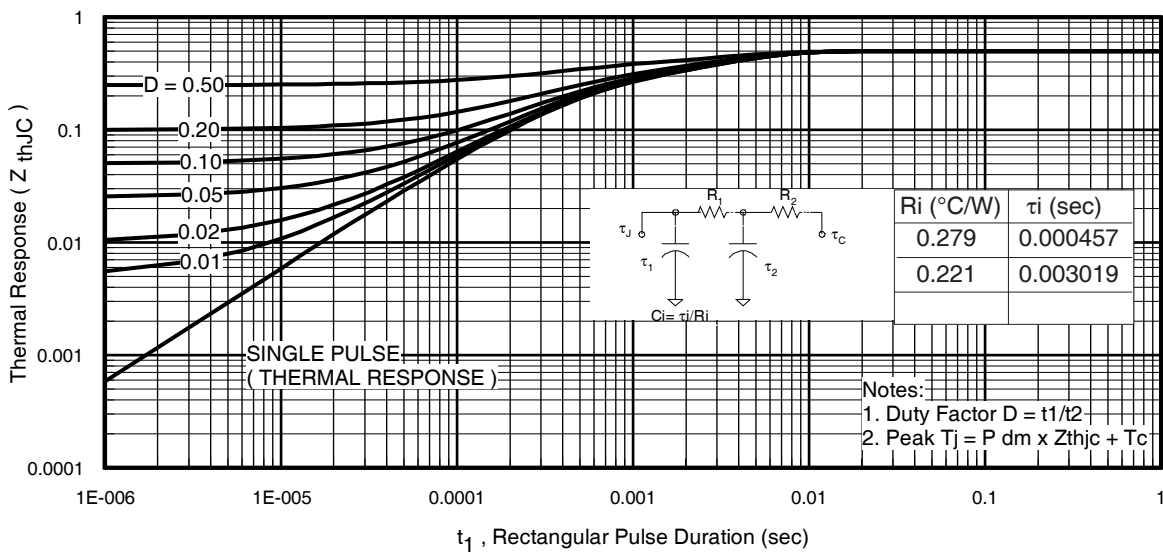
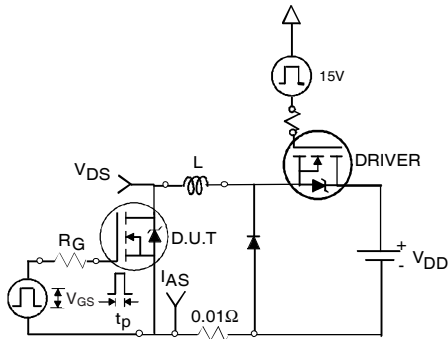

Fig 11. Maximum Effective Transient Thermal Impedance, Junction-to-Case
Fig 12a. Unclamped Inductive Test Circuit
- ① Repetitive rating; pulse width limited by max. junction temperature. (See fig. 11).
- ② Limited by T_{Jmax} , starting $T_J = 25^\circ\text{C}, L=0.095\text{mH}, R_G = 25\Omega, I_{AS} = 75A, V_{GS} = 10V$. Part not recommended for use above this value.
- ③ $I_{SD} \leq 75A, di/dt \leq 340A/\mu s, V_{DD} \leq V_{(BR)DSS}, T_J \leq 175^\circ\text{C}$.
- ④ Pulse width $\leq 1.0\text{ms}$; duty cycle $\leq 2\%$.
- ⑤ $C_{oss\ eff.}$ is a fixed capacitance that gives the same charging time as C_{oss} while V_{DS} is rising from 0 to 80% V_{DSS} .
- ⑥ Limited by T_{Jmax} , see Fig.12a, 12b, 15, 16 for typical repetitive avalanche performance.
- ⑦ This value determined from sample failure population. 100% tested to this value in production.
- ⑧ This is applied to D²Pak, when mounted on 1" square PCB (FR-4 or G-10 Material). For recommended footprint and soldering techniques refer to application note #AN-994.
- ⑨ R_G is measured at T_J of approximately 90°C .
- ⑩ TO-220 device will have an R_{th} of 0.45°C/W .
3. Equation below based on circuit and waveforms shown in Figures 12a, 12b.
$Z_{thJC}(D, t_{av})$ = Transient thermal resistance, see figure 11)